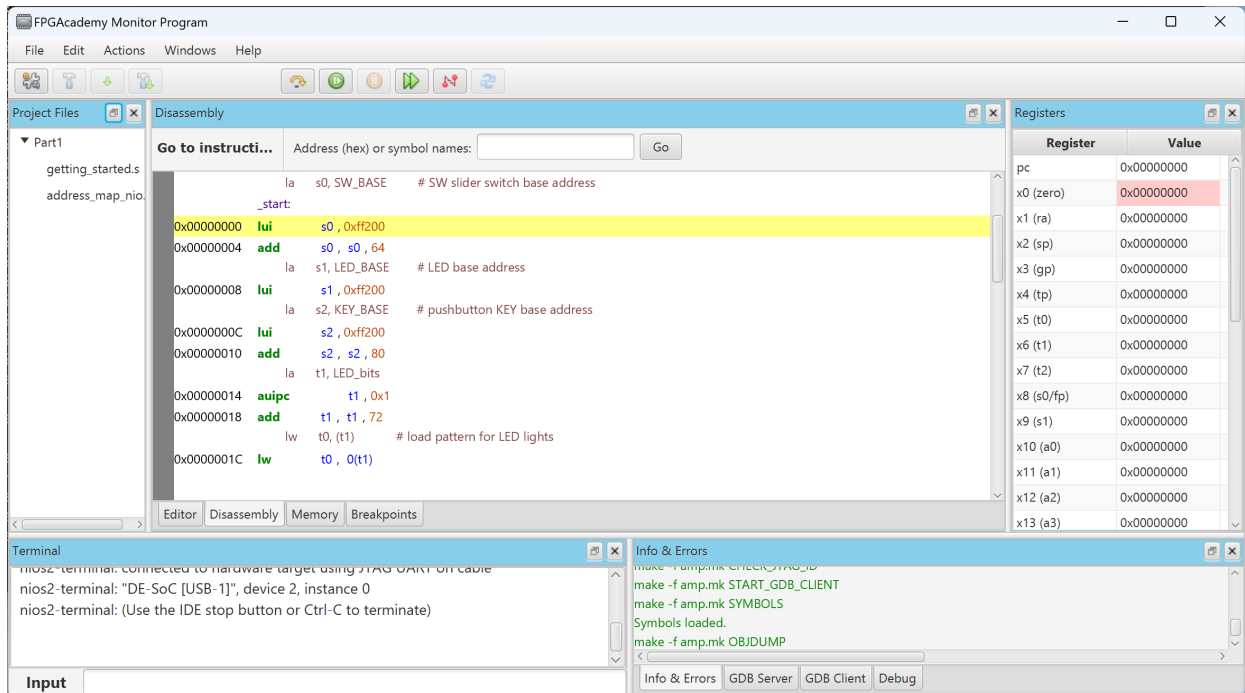

Figure 20: The monitor window showing the loaded sample program.
9. Having downloaded the computer system into the FPGA on your DE1-SoC board, we can now load and run the sample program. In the main Monitor Program window, shown in Figure 20, select **Actions > Compile & Load** to assemble the program and load it into the memory on the board. Figure 20 shows the Monitor Program window after the sample program has been loaded.